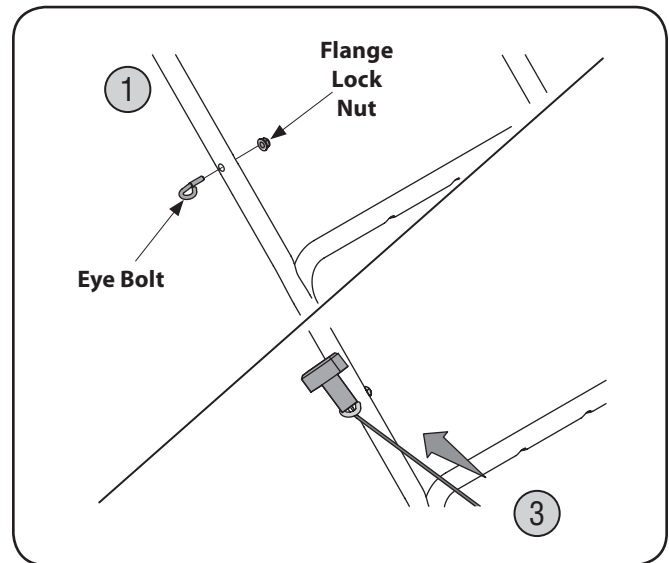

Figure 3-18
1. Attach the eye bolt to the upper handle and loosely thread the lock nut on to secure it. Do NOT tighten. See Figure 3-18.
3. Loop the rope through the eye bolt. See Figure 3-18.